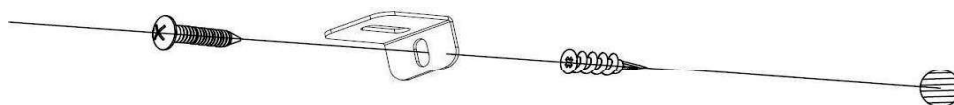

Fig. 4-3
- C. Install a plastic anchor (B) into the drywall. Then, install a screw (A) into the hole of the L-bracket (F) into the wall anchor to secure the fireplace from coming off the hooks. (Fig. 4-3)